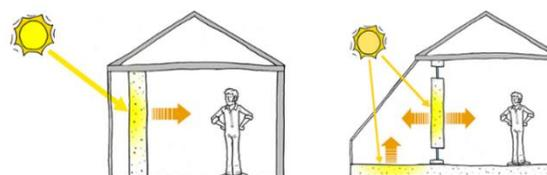

Fig. 46: A Trombe wall (left) and an Attached Sunspace (right) (Source: sustainabilityworkshop.venturewell.org)
- a) **Trombe wall:** (Fig. 46) it consists of a dark-coloured wall of high thermal mass facing the sun, with glazing spaced in front to leave a small air space
- b) **Attached Sunspace** (Fig. 46) is essentially a Trombe wall where the air space is so big it is habitable.